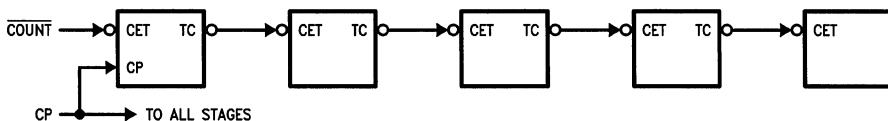

FIGURE 1: Multistage Counter with Ripple Carry
Figure 1 shows the connections for simple ripple carry, in which the clock period must be longer than the CP to TC delay of the first stage, plus the cumulative CET to TC delays of the intermediate stages, plus the CET to CP setup time of the last stage. This total delay plus setup time sets the upper limit on clock frequency. For faster clock rates, the carry lookahead connections shown in Figure 2 are recommended. In this scheme the ripple delay through the intermediate stages commences with the same clock that causes the first stage to tick over from max to min in the Up mode, or min to max in the Down mode, to start its final cycle. Since this final cycle takes 10 ('F568) or 16 ('F569) clocks to complete, there is plenty of time for the ripple to progress through the intermediate stages. The critical timing that limits the clock period is the CP to TC delay of the first stage plus the CEP to CP setup time of the last stage. The TC output is subject to decoding spikes due to internal race conditions and is therefore not recommended for use as a clock or asynchronous reset for flip-flops, registers or counters. For such applications, the Clocked Carry (CC) output is provided. The CC output is normally HIGH. When CEP, CET, and TC are LOW, the CC output will go LOW when the clock next goes LOW and will stay LOW until the clock goes HIGH again, as shown in the CC Truth Table. When the Output Enable (OE) is LOW, the parallel data outputs O₀–O₃ are active and follow the flip-flop Q outputs. A HIGH signal on OE forces O₀–O₃ to the High Z state but does not prevent counting, loading or resetting.